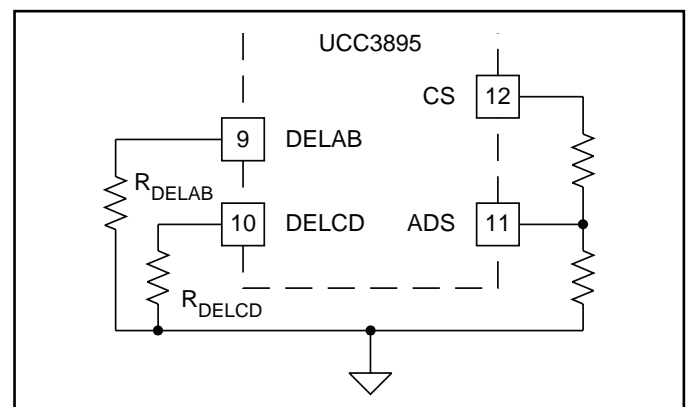

Figure 1. Resistors needed in programming.
**CT:** Oscillator Timing Capacitor. (Refer to Fig. 1, Oscillator Block Diagram) The UCC3895's oscillator charges CT via a programmed current. The waveform on CT is a sawtooth, with a peak voltage of 2.35V. The approximate oscillator period is calculated by the following formula:
**RT:** Oscillator Timing Resistor. (Refer to Fig. 1, Oscillator Block Diagram) The oscillator in the UCC3895 operates by charging an external timing capacitor, CT, with a fixed current programmed by  $R_T$ .  $R_T$  current is calculated as follows:
**SYNC:** Oscillator Synchronization. (Refer to Fig. 1, Oscillator Block Diagram) This pin is bidirectional. When used as an output, SYNC can be used as a clock, which is the same as the chip's internal clock. When used as an input, SYNC will override the chip's internal oscillator and act as its clock signal. This bidirectional feature allows synchronization of multiple power supplies. The SYNC signal will also internally discharge the CT capacitor and any filter capacitors that are present on the RAMP pin. The internal SYNC circuitry is level sensitive, with an input low threshold of 1.9V, and an input high threshold of 2.1V. A resistor as small as 3.9k $\Omega$  may be tied between SYNC and GND to reduce the sync pulse width.